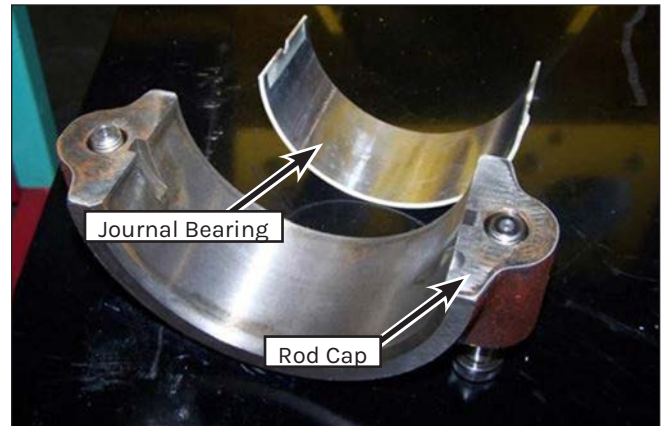

Figure 157: Bearing Removal.
6. Remove the journal bearing from the rod cap and discard (Figure 157).